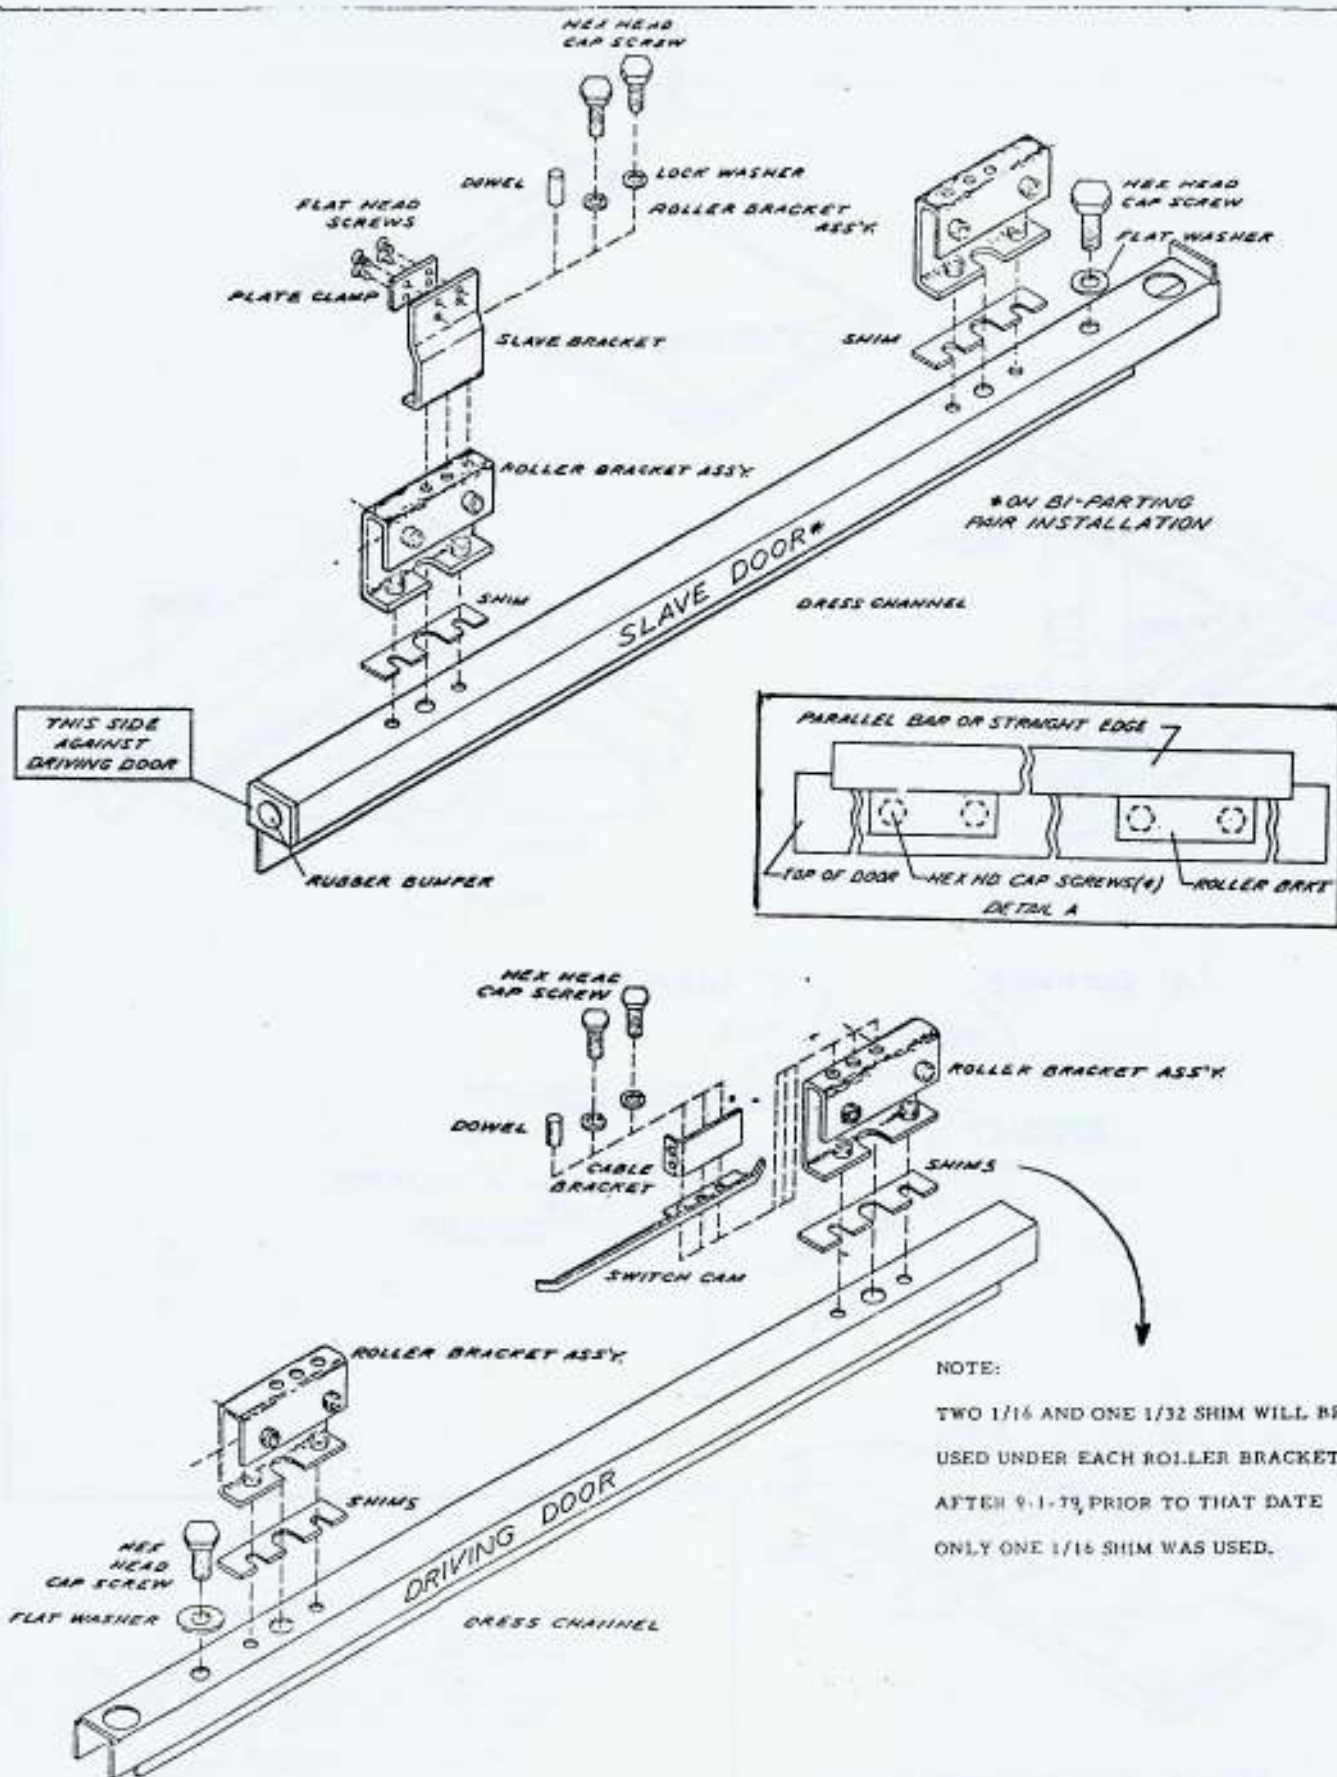

FIG. 16 Sliding door installation details.
1. Install the roller brackets, cable bracket and switch cam onto the top of the driving door as shown in FIG. 16. If applicable to this installation install the sliding switch cam also. Use two hex head cap screws, two lockwashers and a dowel pin in each bracket. If the installation is for bi-parting pairs install the roller brackets on the slave door. Be sure the brackets are properly positioned on each door as shown in FIG. 16. Install the slave bracket onto the roller bracket closest to the center of the door frame.
**NOTE:** Details shown in FIG. 16 are as viewed from the exterior of the building.
2. Check to see that both roller brackets are laterally aligned with each other as shown in Detail A of FIG. 16. This may be done with a long parallel bar or rigid metal straight edge. If better alignment is necessary, loosen the screws, hold the straight edge behind both brackets and slide each bracket against the straight edge. Tighten the screws.